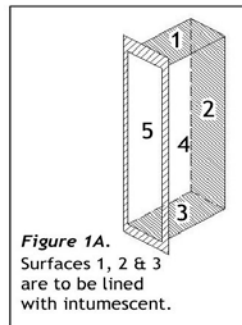

Figure 1A.
- Line door backbox with supplied intumescent as shown in Figure 1A.